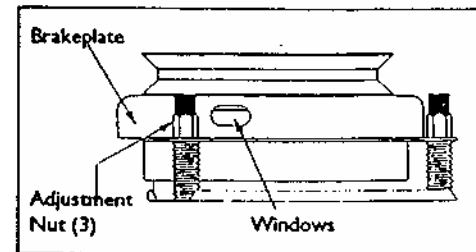

figure 2
4. Locate the three holes in the brake plate, one near each adjustment nut. (figure 2)